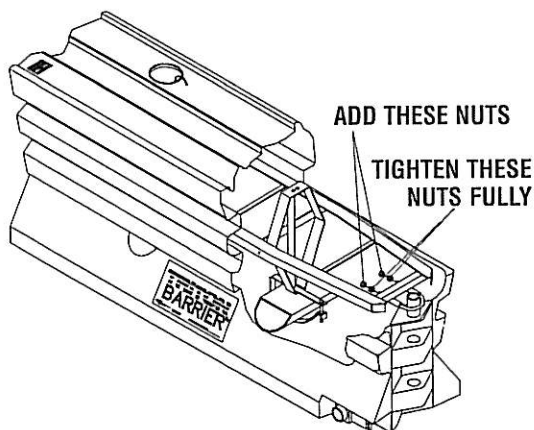

Figure 3
5. Prepare the first (inverted) TRITON Segment. Tighten interior U-bolt nuts fully (4 places - 2 each end). If plastic on inside of end knuckle begins to deform, stop. Add second nut (4 places - 2 each end). Tighten flush with first nut. Apply green Loctite #290 or equal to nuts after tightening (both ends). See figure 3.